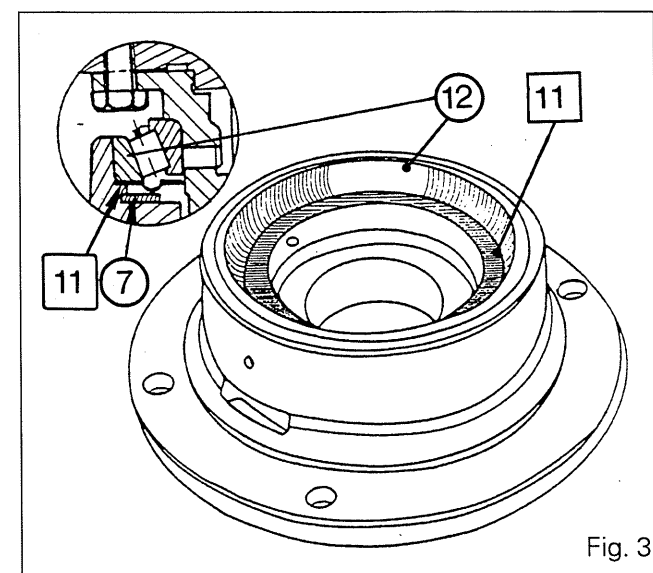

Fig. 3
14. Fit the circlip (7), the deflector shim [11], ensuring that it is fitted the right way round, and the bearing cup (12) (Fig. 3).